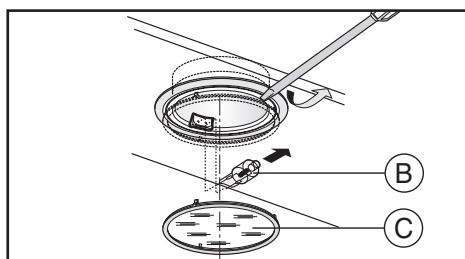

Fig.6A
• Replacing halogen light bulbs (**Fig.6A**):